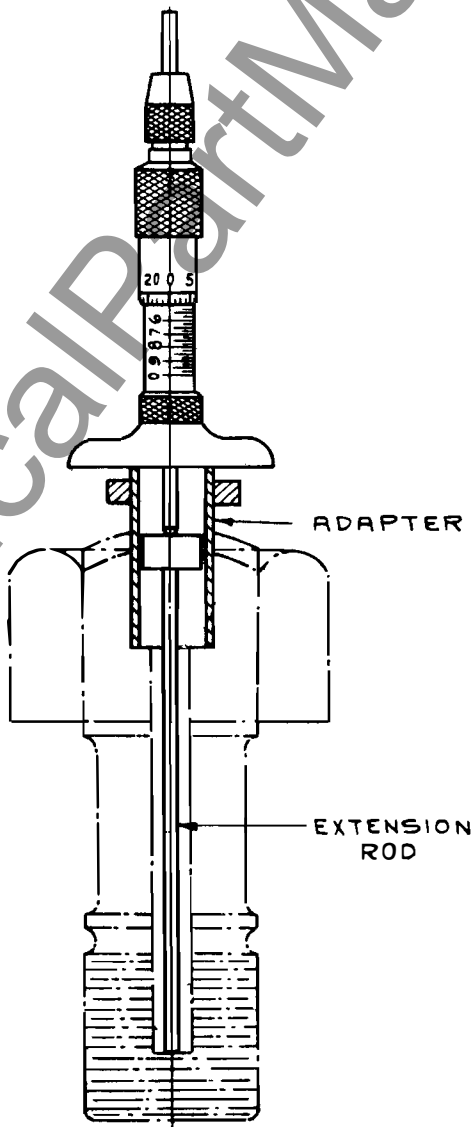

Figure 1
Bolts and studs 2" diameter and larger are provided with holes for measuring the stretch with a rod, adapter and depth micrometer as per Figure 1. Studs without holes can usually be measured by means of special adapters, slipped over the nut, and a depth micrometer. Through bolts with standard hex nuts but without holes, can be measured over the bolt ends with ordinary outside micrometers.
- e. Measure the stud or bolt, with nut loose, using the proper adapter and extension rod shown in Figure 1.